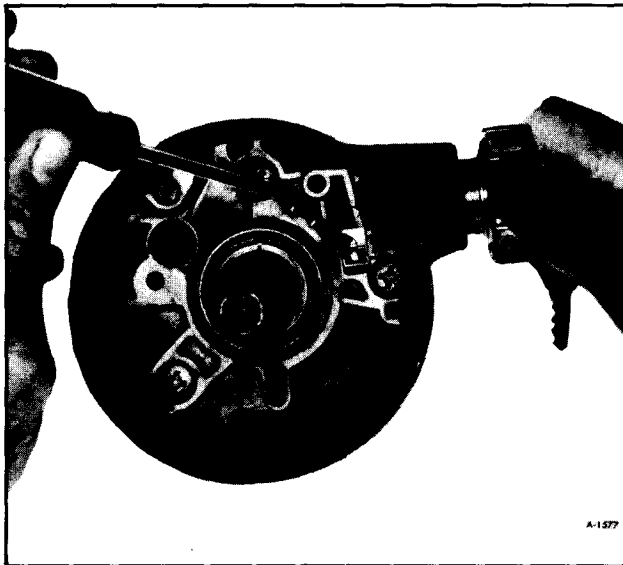

Figure 83—Removing Lock
12. Insert a thin tool (small screw driver or knife blade) into the slot next to the switch mounting screw boss (right-hand slot) and depress retainer at bottom of slot, which releases lock. Remove lock (figure 83).